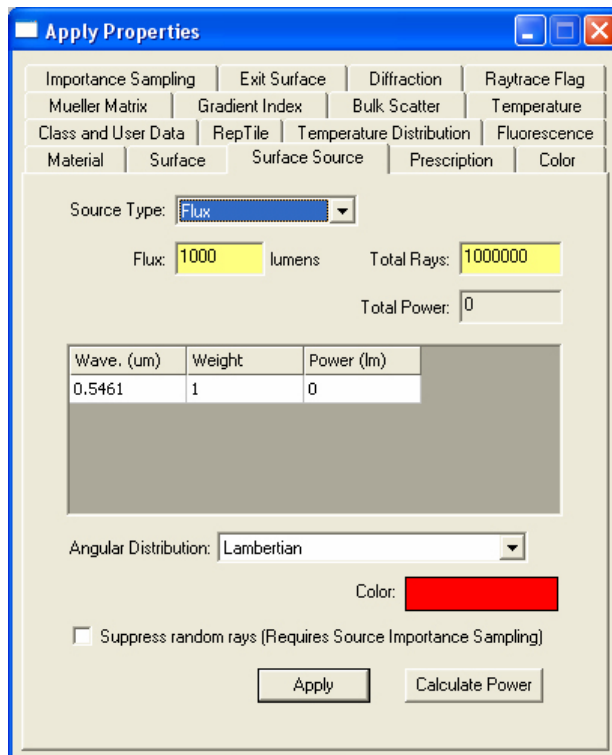

Figure 11. Setting the Surface Source Parameters for the CCFL.
12. Enter the parameters as shown in Fig. 11,